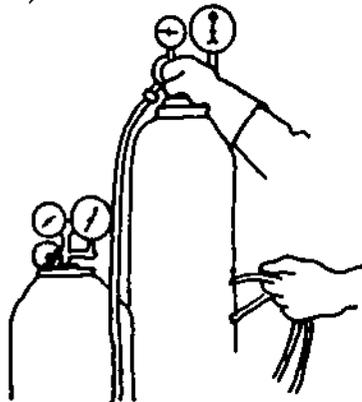

Figure 18-8. Opening Cylinder Valves Slightly
e) Open the cylinder valves slightly to blow out the hose (Figure 18-8).
c) The reducing flame (Figure 18-8)—also referred to as a carburizing flame—has more acetylene than oxygen supplied to the torch than the 1-to-1 ratio, producing an inner cone with a feather. The length of the feather indicates the amount of acetylene and is expressed in relation to the inner cone: e.g., "3 X reducing" means that the white feather is three times the length of the inner cone. When steel is melted, the puddle is boiling and not clear when this flame is used. This is the best flame to use for aluminum welding, aluminum brazing, fusion welding of stainless steel, silver brazing, and hard-surfacing. The temperature of this flame ranges from 2980°C to 3200°C.